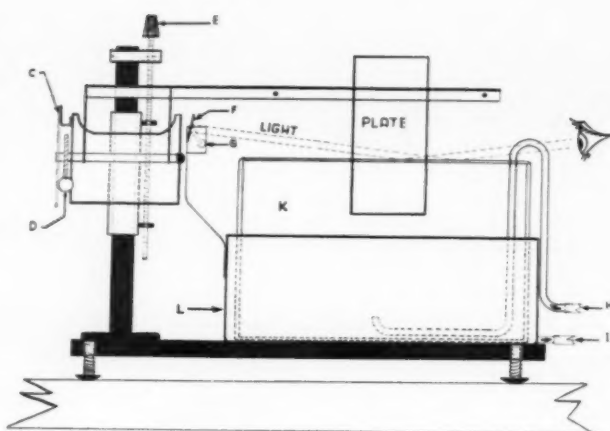

Figure 1
In studying the formation and properties of the desensitizing layer, it was thought that data on its water wettability obtained by contact angle measurement would be helpful. A device similar to the one described by C. G. Sumner* was therefore set up. (Figure 1) It consists of a vessel (K) set in a pan (L). Fresh water is continually but slowly added to the vessel K through the inlet tube (H). The water continually overflows into pan (L), maintaining a surface free from contamination. The plate to be tested is clamped to the projecting arm and lowered into the water by the screw (E). The knob (D) adjusts the angle the plate makes with the water surface. Light from the bulb (G) is reflected from mirror (F) across the surface of the water so the operator can see and adjust the plate to the correct angle. This angle is then read from the protractor (C). During the operation the plate